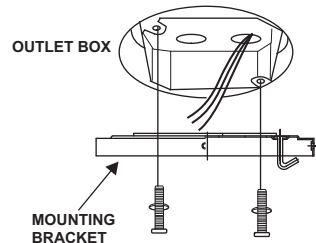

Fig. 4
Step 1. Attach the mounting bracket to the outlet box with two screws and washers provided with the outlet box. Make sure the bracket is tight and secured (Fig. 4).